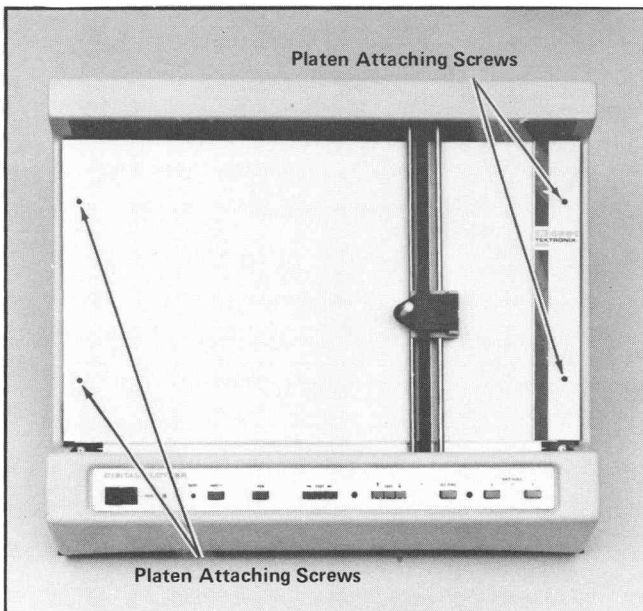

Fig. 3-9. Installing the platen and trim strip.
3. Place the trim strip in position at the right-hand edge, and install the four attaching screws through the platen and trim strip (Fig. 3-9). Align the platen, following the Platen Alignment Procedure, which follows.